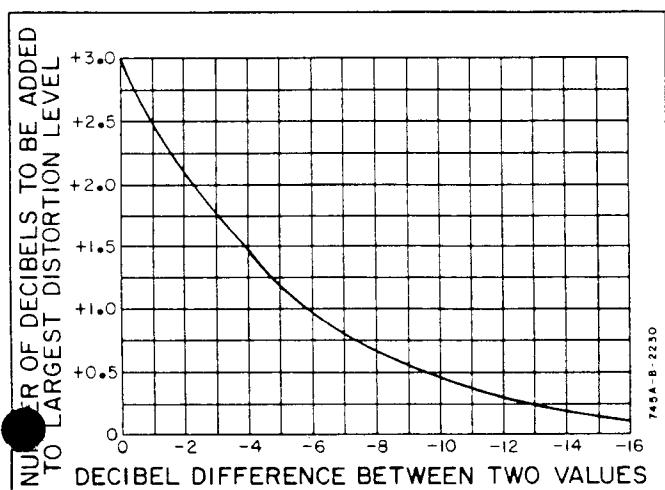

Figure 4-9. Logarithmic Addition of Harmonic Components.
m. Calculate the Total Harmonic Distortion using the graph shown in Figure 4-9. As an example: If the amplitude of the second harmonic is -110 dB and the third harmonic amplitude is -114 dB the dB difference between the two is -4 dB. Locate this number on the horizontal axis of the graph. The -4 line intersects the curve at approximately the +1.5 level on the vertical axis. The total harmonic distortion is therefore the amplitude of the largest harmonic (2nd harmonic) plus the number determined on the vertical axis (-110 dB + 1.5 dB = -108.5 dB).
n. Calculate the Induced Harmonic Distortion using the graph shown in Figure 4-9.